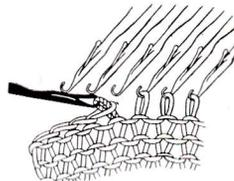

Fig. 67
- d. Repeat until required number of stitches are bound off. (See Fig. 67)